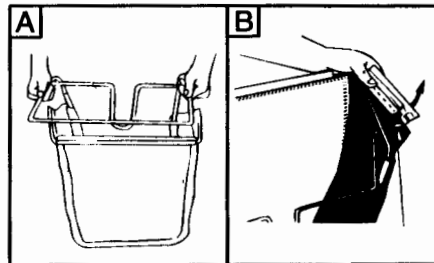

Figure 8
- Slide the ends of the front frame assembly into the ends of the rear frame as shown in figure 8.
- Slip the openings in the side of the plastic channel on bag over hooks on the grass catcher frame. See figure 8.